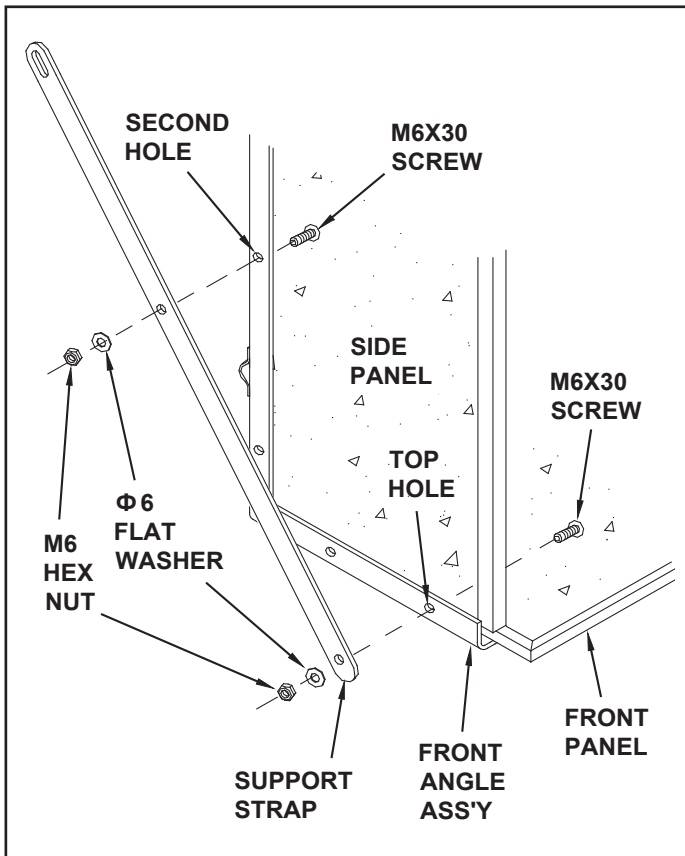

FIGURE 7
9. Position a side panel against a side angle, resting it down on top of the front panel. Place a support strap on the outside of the side angle and start a M6X30 screw through the **second hole** in the side panel, the side angle and the support strap. Secure with a flat washer and hex nut. **Make only finger tight at this time.** See figure 7.
10. Start a M6X30 screw through the top hole in the side panel, the front angle assembly and the support strap. Secure with a flat washer and hex nut. **Make only finger tight at this time.** See figure 7.